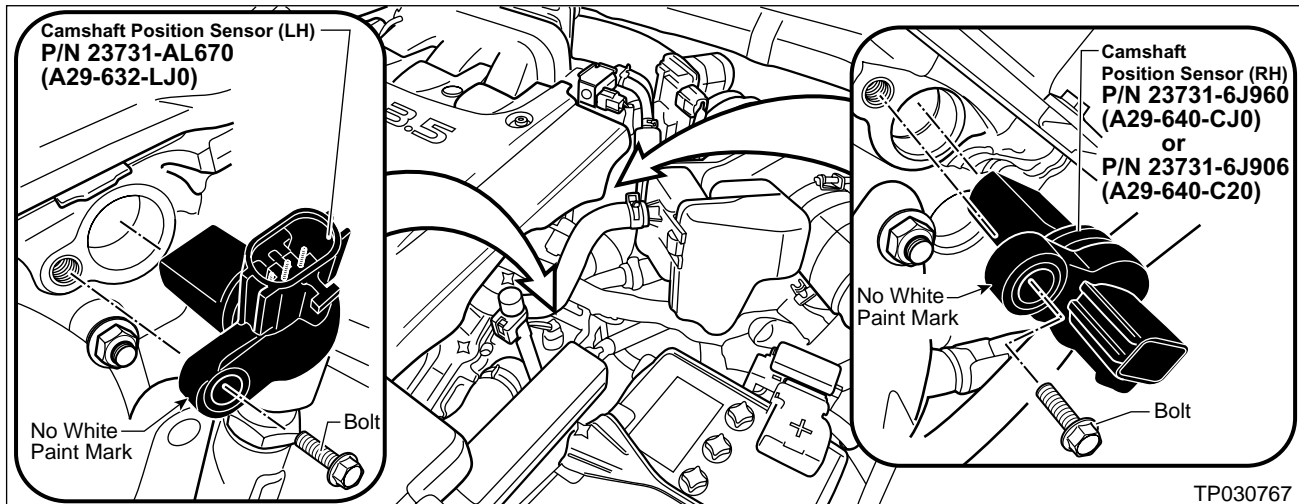

Figure 13
3. Locate the **Camshaft Position Sensors** (see Figure 13).